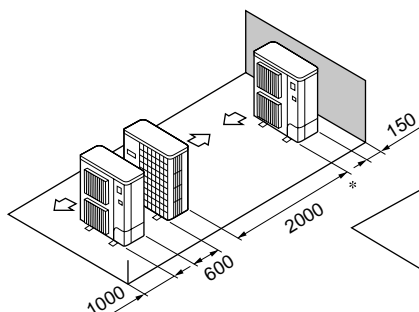

Fig. 2-14
- Single parallel unit arrangement (Fig. 2-14)